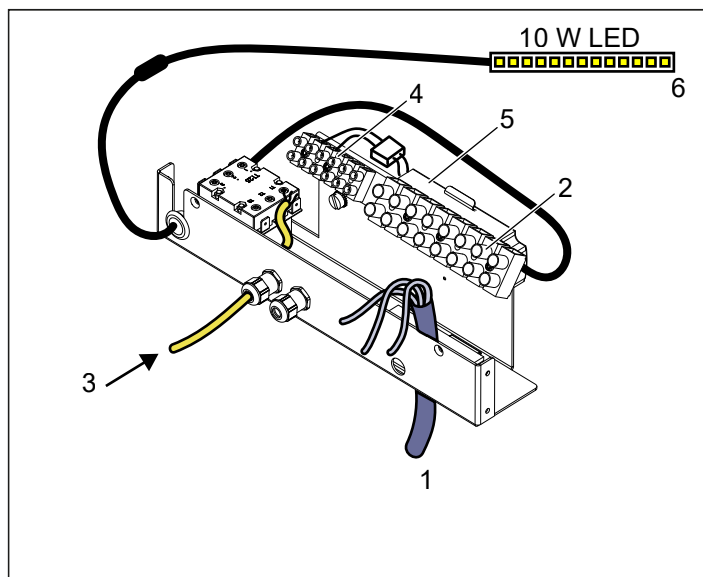

Figure 9: Electrical Compartment
3. Connect the power cable (see Figure 9) according to the wiring diagram (see Figure 13).